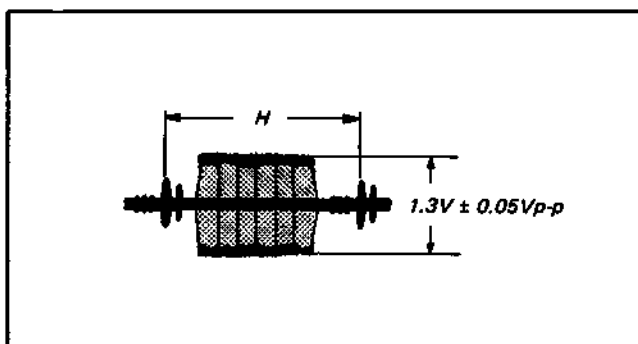

Fig. 4-4-21. ACC adjustment
- (1) Supply the VTR with the colour bar signal and set up the E-E mode.
- (2) Connect the oscilloscope to pin 8 of IC5.
- (3) Adjust T4 for minimum output level.
- (4) Adjust RV24 for $1.3V \pm 0.05 V_{p-p}$. (See Fig. 4-4-21.)